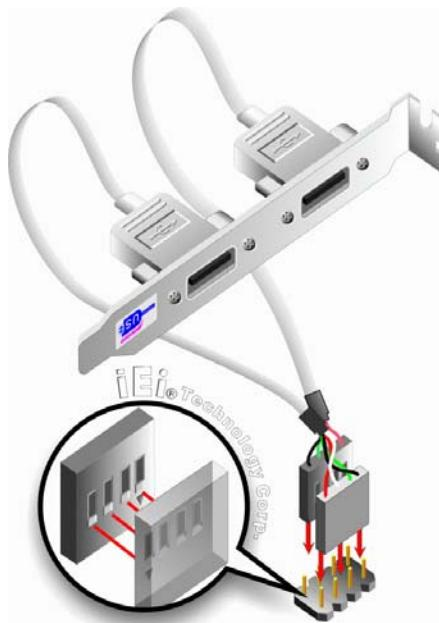

Figure 5-20: Dual USB Cable Connection
Step 3: Insert the cable connectors Once the cable connectors are properly aligned with the USB connectors on the NANO-9453, connect the cable connectors to the onboard connectors. See **Figure 5-20**.